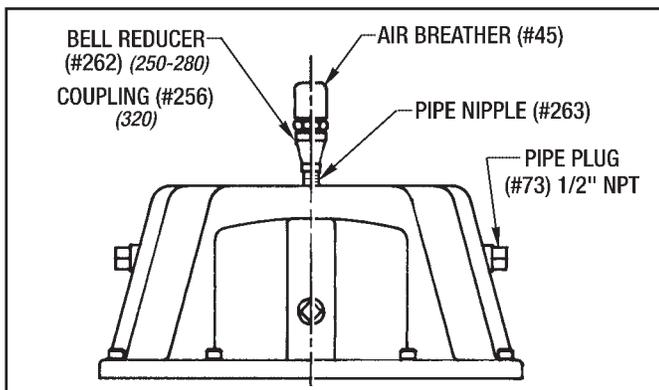

Figure 3.13
4. Install Pipe Nipple (#263) in place of Pipe Plug (#73). In the installation of a 250 or 280 motor brake thread Bell Reducer (#262) onto nipple. Or for a 320 motor brake thread Coupling (#256) onto the nipple. Then reinstall Air Breather (#45). (See Figure 3.13)